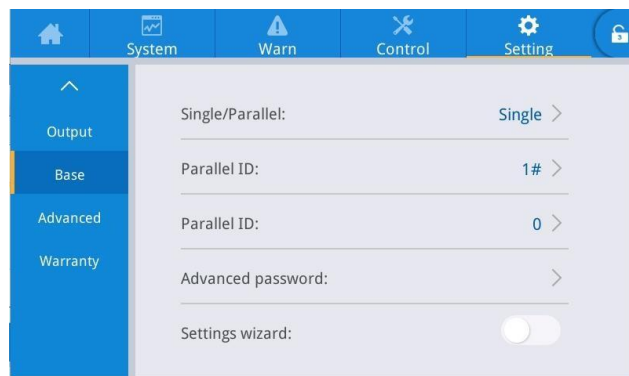

Fig.5-8 Parallel parameter setting interface
2. In the basic parameter setting of the setting interface, set to 1, 2 in sequence, the default small number for the host, and up to 2 parallels are supported, as shown in Figure 5-8.